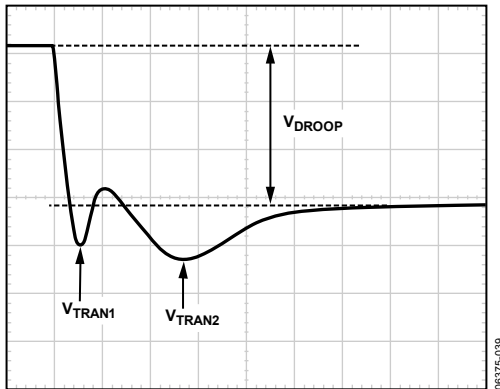

Figure 30. Transient Setting Waveform, Load Step
1. With the dynamic load set at its maximum step size, expand the scope time scale to $2 \mu\text{s}/\text{div}$ to $5 \mu\text{s}/\text{div}$. This results in a waveform that may have two overshoots and one minor undershoot before achieving the final desired value after V_{DROOP} (see Figure 30).